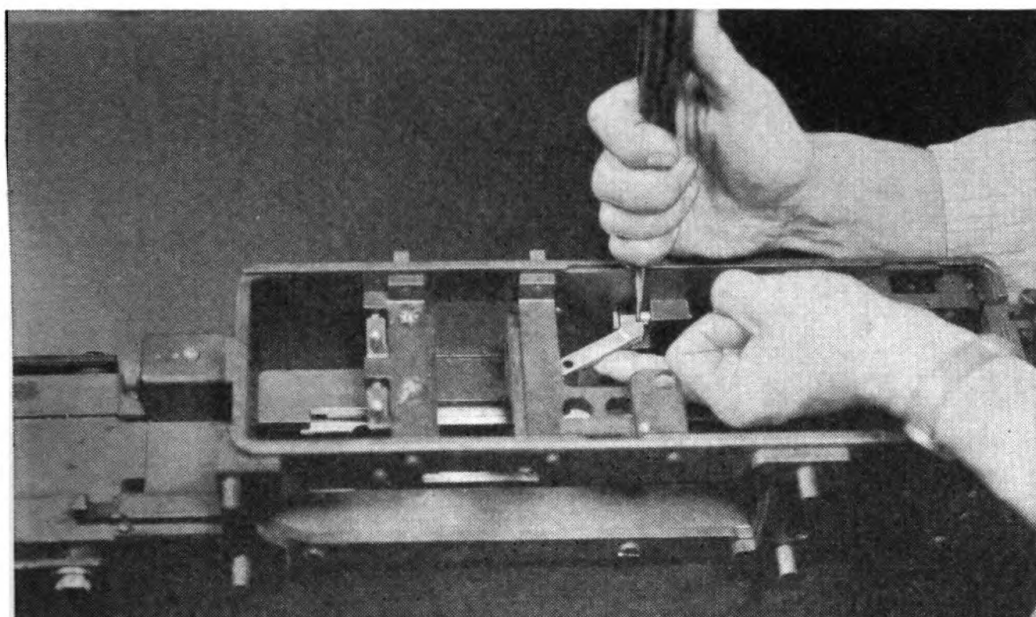

FIGURE 28.—Removing carrier catch.
- (10) Holding the carrier catch plunger depressed with the point of a screw driver, lift out the carrier catch (fig. 28). Take care not to lose carrier plunger and spring.